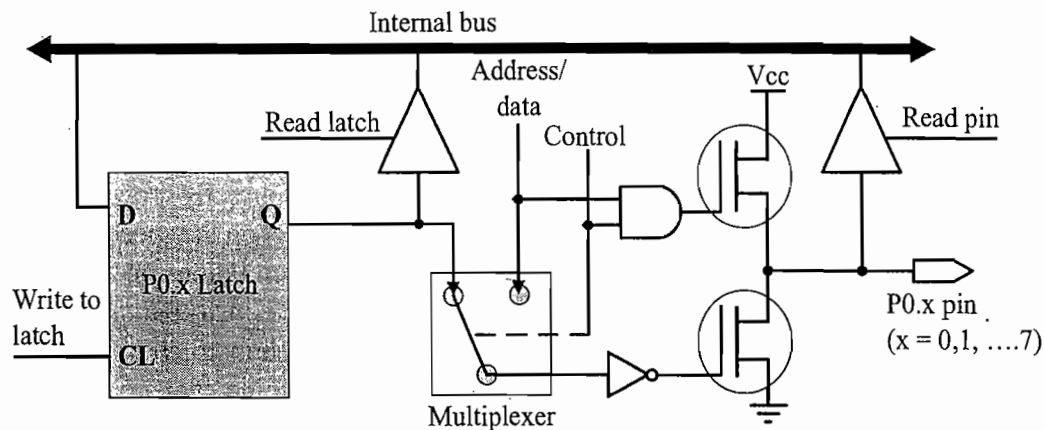

Fig. 5.10 Port 0 pin organisation
5.3.5.1 Port 0 PORT 0 is a bi-directional port, which is used as a multiplexed address/data bus in external data memory/program memory operations. Port 0 pin organisation is illustrated in Fig. 5.10.